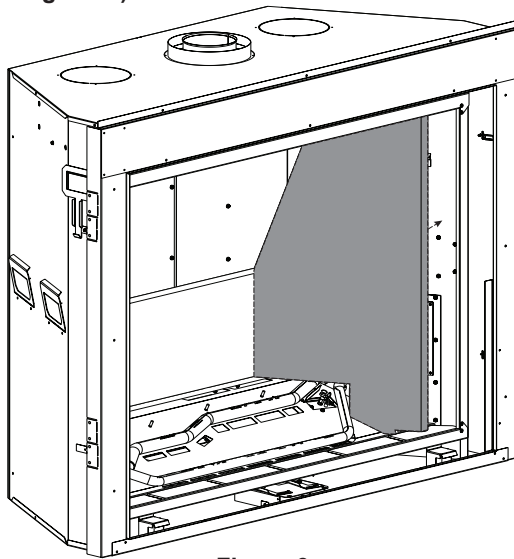

Figure 3
2. Place LINER SIDE - RIGHT against right firebox wall and LINER REAR - BOTTOM and push back to hold into place. (See Figure 3.)